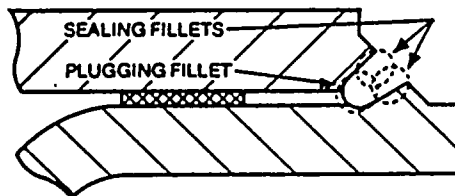

Figure 7.
- Figure 7 shows the general areas occupied by the three fillet welds.